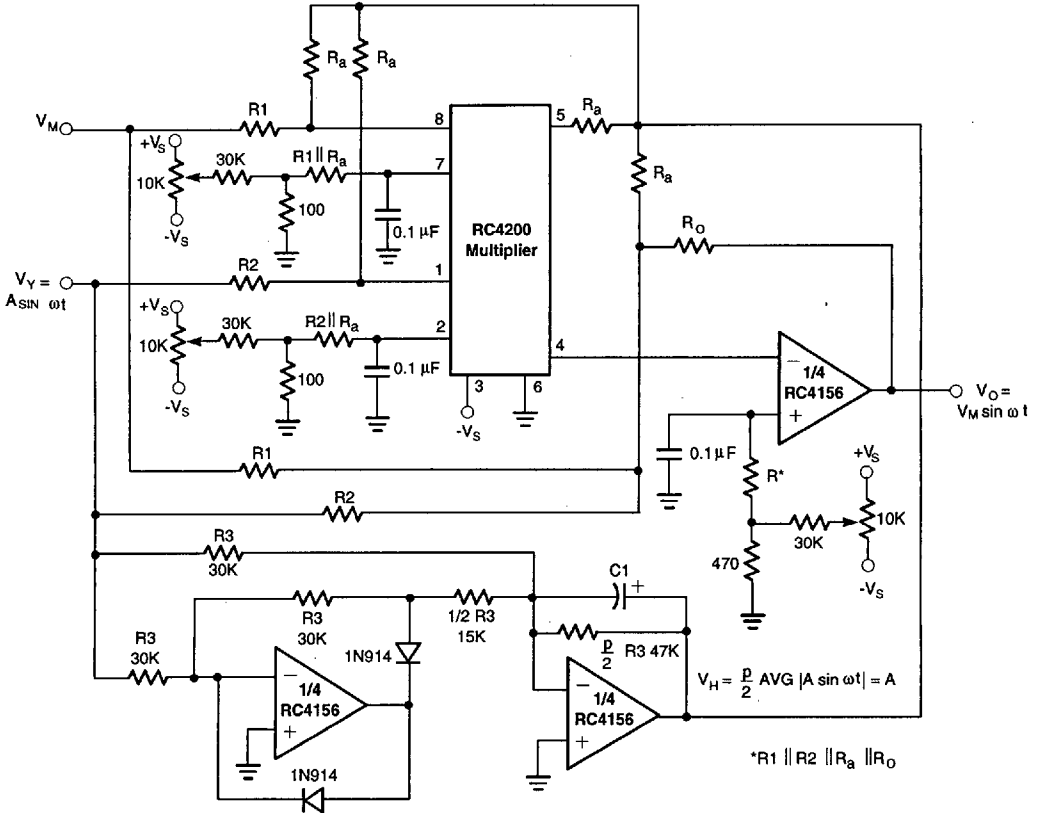

Figure 16. Amplitude Modulator with A.G.C.
**Amplitude Modulator with A.G.C. (Figure 16)**